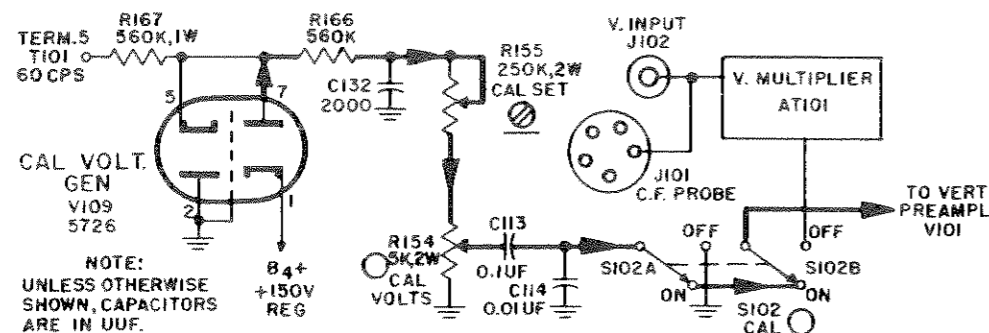

Figure 2-7. Calibrating Voltage Generator, Simplified Schematic Diagram.
(5) CALIBRATING VOLTAGE GENERATOR (See figure 2-7) – This circuit includes a dual diode tube type 5726, V109, which is the source of a square-wave calibrating voltage used to determine, by substitution, the voltage amplitude of signals in the vertical channel. Complete instructions for making voltage measurements are given in paragraph 8 of Section 3 of this manual. The sine wave voltage of approximately 550 volts peak from terminal 5 of power transformer T101 is applied to V109 through limiting resistor R167. On the positive alternation the voltage is clipped at 150 volts because the pins 7, 1 diode of V109 has its cathode returned to +150 regulated supply and therefore conducts when its plate exceeds that value of bias. The negative alternation is removed entirely by the action of the pins 5, 2 of double-diode V109 which conducts directly to ground whenever its cathode becomes negative. The resulting 150 volts peak-to-peak, square-wave is applied to the series network of R166, R155 CAL SET, and R154 CAL VOLTS. R155 is a behind the panel adjustment used to set the voltage across the calibrated panel control R154, CAL VOLTS, to 1 volt peak-to-peak. The calibrated voltage is coupled from the arm of R154, via capacitor C113 to the CAL